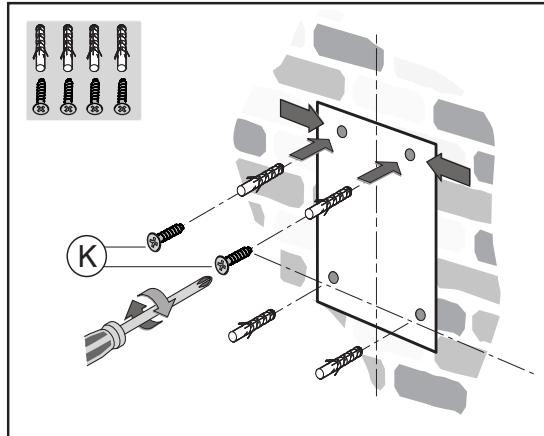

Fig.3
- Mark the fixing holes and cut them into the material (Fig.3).
- Fix the **2** top screws **K** and screw anchors (Fig.3), without tightening them completely.